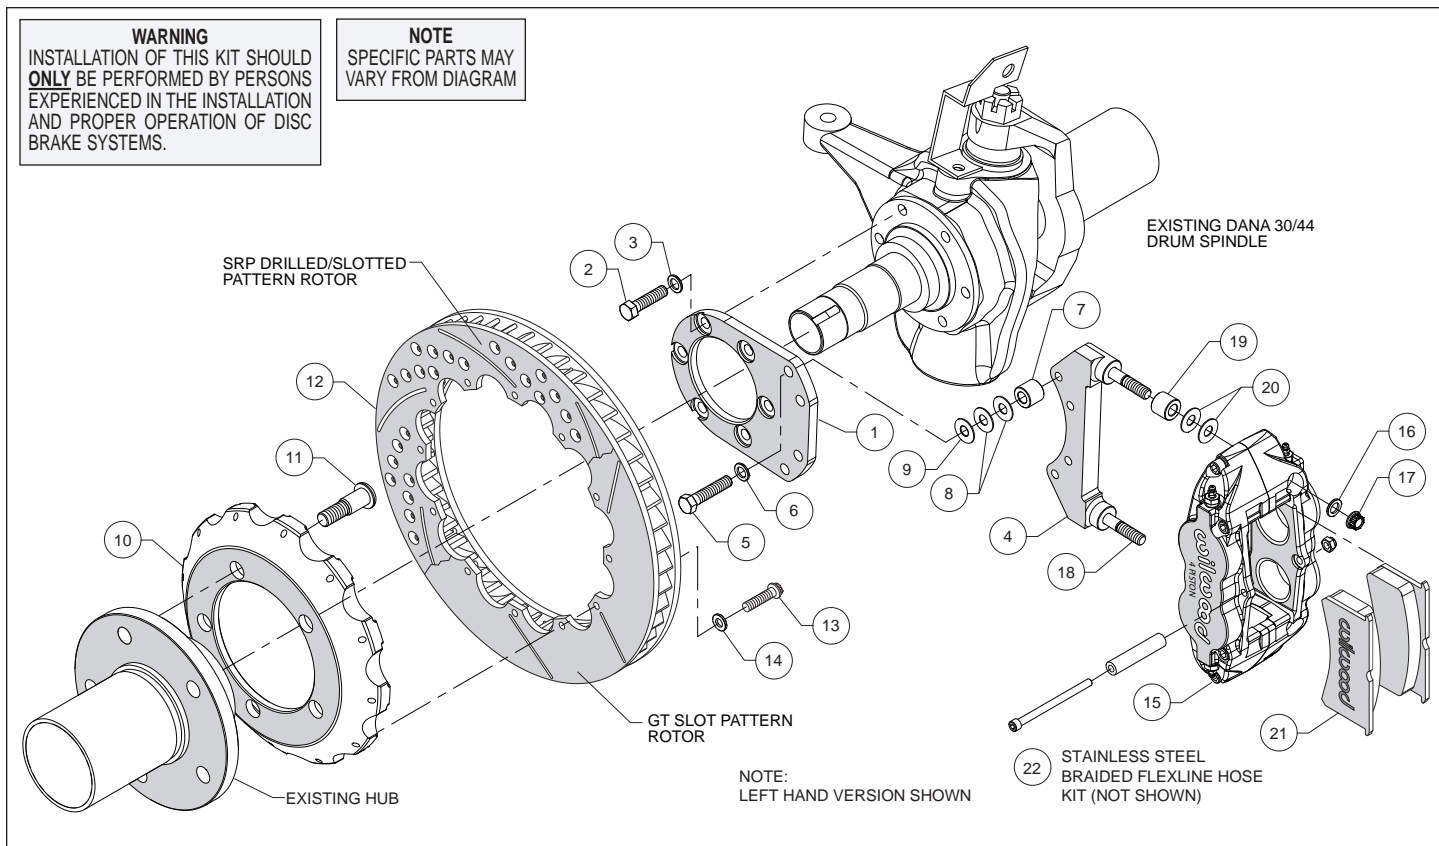
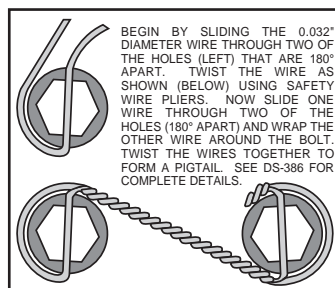

Figure 1. Typical Installation Configuration
Figure 3. Safety Wire Diagram
**Assembly Instructions** (numbers in parenthesis refer to the parts list and Figure 1 on the preceding pages):
- Orient the flat mount bracket (1) as shown in Figure 1 and Photo 1, and install using bolts (2), and washers (3). Ensure that the counterbored holes in the bracket are facing outboard, Figure 1. Temporarily tighten the mounting bolts. **NOTE:** *The bracket must fit squarely against the mount bosses on the upright.* Inspect for interference from casting irregularities, machining ridges, burrs, etc. Remove bolts one at a time, apply red *Loctite*® 271 to the threads and torque to 40 ft-lb.
- The caliper mount bracket (4) should initially be installed with clean, dry threads on the mounting bolts. Orient the bracket as shown in Figure 1 and Photo 2, and install using mount bolts (5) and washers (6). Initially place two .035" thick shims (8) and spacer (7) on each bolt between the flat and caliper brackets, Figure 1. Temporarily tighten the mounting bolts. Later, after the caliper alignment has been checked, the mount bolts will be secured using red *Loctite*® 271.
- Orient the hat (10) and the OEM hub as shown in Figure 1 and Photo 3. **NOTE:** *The hat must fit flush against the axle hub or excessive rotor run out may result.* Press fit the wheel studs (11) thru the holes in the hat and into the existing hub. **NOTE:** *We recommend this procedure be performed by a qualified machinist.*
- Orient the rotor (12) and the hat/hub assembly as shown in Figure 1 and Photo 4. Attach rotor to hat using bolts (13) and washers (14). Using an alternating sequence, apply red *Loctite*® 271 to the threads, and torque to 155 in-lbs. For an added measure of security, the bolts may be safety wired using standard 0.032 inch diameter stainless steel safety wire as shown in Figure 3. Please refer to Wilwood's data sheet DS-386 (available at [www.wilwood.com/Pdf/DataSheets/ds386.pdf](http://www.wilwood.com/Pdf/DataSheets/ds386.pdf)) for complete safety wire installation instructions.
- Lubricate the caliper mounting studs (18) with lightweight oil. Initially place two .035" thick shims (20) and spacer (19) on each stud as shown in Figure 1 and Photo 5. Mount the caliper (15) onto the bracket (4) using lock nuts (17) and washers (16), Figure 1. Temporarily tighten the lock nuts and view the rotor through the top opening of the caliper. The rotor should be centered in the caliper, Photo 6. If not, adjust by adding or subtracting shims (8 and/or 9) between the spindle bracket and caliper bracket. Always use the same amount of shims on each of the four mounting bolts. Once the caliper alignment is correct, remove the bracket to bracket mounting bolts (5) one at a time, apply red *Loctite*® 271 to the threads, and torque to 35 ft-lb.